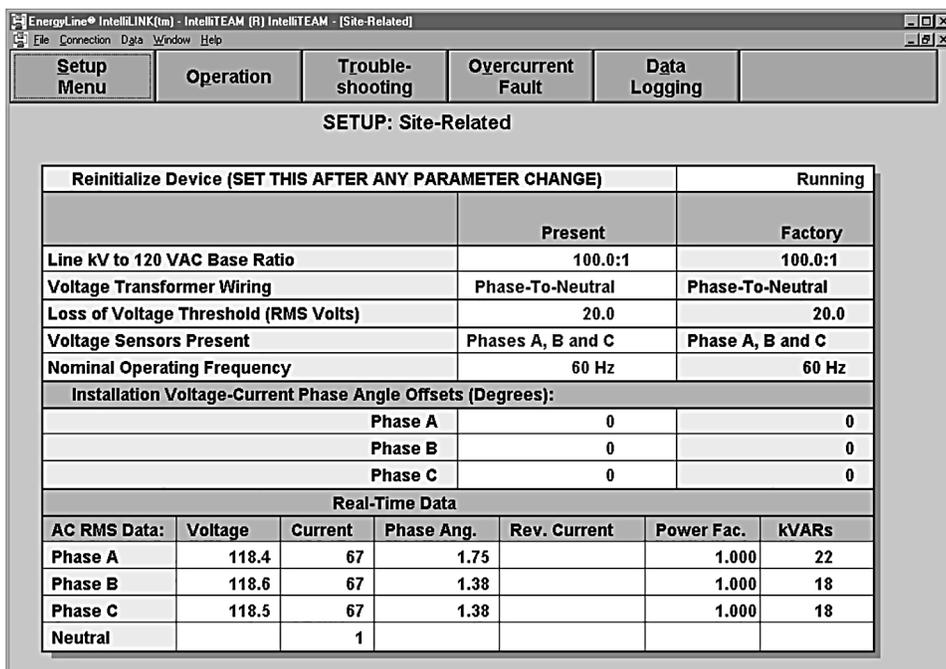

Figure 7. The *Setup>Site-Related* screen for a 5801 control.
**STEP 5.** At the *Setup Menu* screen, click on the **Site-Related** button to display the *Setup>Site-Related* screen. See Figure 7 on page 15. Enter the correct values for this switch control.